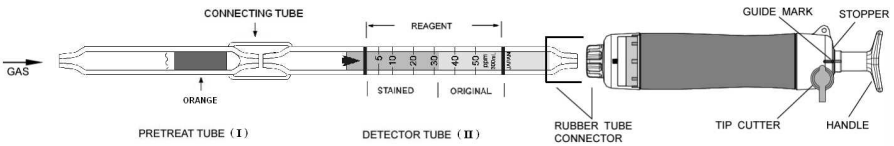

Fig.1
- ① Break both ends of the detector tube (II) and pretreat tube (I), and connect each end of the detector tube (II) and pretreat tube (I) with connecting tube as shown in Fig. 1.
- ② Insert the detector tube (II) into the aspirating pump securely as shown in Fig.1. (Arrow mark shall point to the pump.)
- ③ Align the guide marks on the shaft and stopper of the aspirating pump.
- ④ Pull the pump handle at a full stroke until it locks and wait for 40 seconds or until the completion of sampling is confirmed with the flow indicator of the pump. (See descriptions about the flow indicator in the instruction manual of the pump.)
- ⑤ Push back the handle without removing the detector tube from the rubber tube connector so that air in the pump will be discharged perfectly. Then repeat the step ③~④ twice more.
- ⑥ On completion of sampling, read the scale at the maximum point of the stained layer.
- ① Temperature: Correct the tube reading by following temperature correction table.